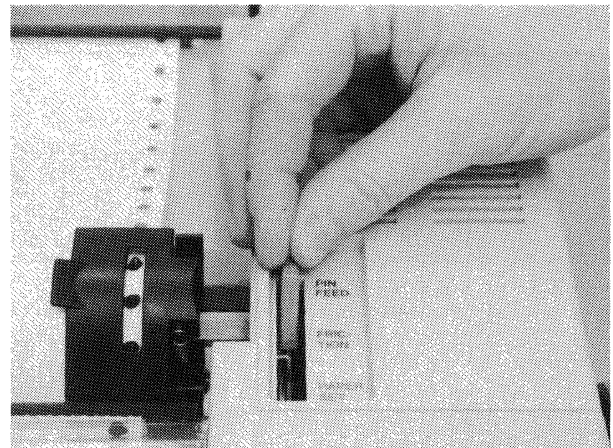

Figure 2-5D Lever To PIN FEED Position
6. Move the paper around to the platen with the platen knob and place the control lever in the PIN FEED position (Figure 2-5D).